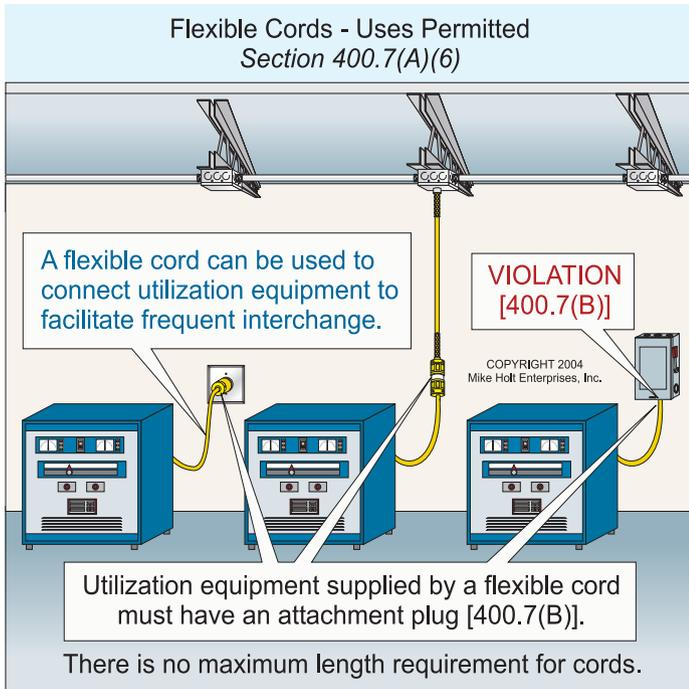

Figure 400-2
**(A) Uses Permitted.** Flexible cords and flexible cables within the scope of this article can be used for the following applications:
- (1) Pendants [210.50(A) and 314.23(H)].
- (2) Wiring of luminaires [410.14 and 410.30(B)].
- (3) Connection of portable lamps, portable and mobile signs, or appliances [422.16].
- (4) Elevator cables.
- (5) Wiring of cranes and hoists.
- (6) Connection of utilization equipment to facilitate frequent interchange [422.16]. **Figure 400-2**
- (7) Prevention of the transmission of noise or vibration [422.16].
- (8) Appliances where the fastening means and mechanical connections are specifically designed to permit ready removal for maintenance and repair, and the appliance is intended or identified for flexible cord connections [422.16].